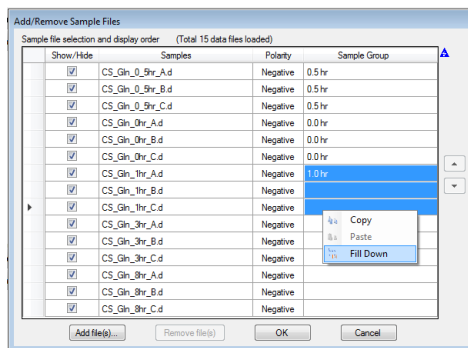

Figure 40 Use Fill Down to add Sample Group values in the Add/Remove Sample Files dialog box
- d Click **Fill Down** (Figure 40).